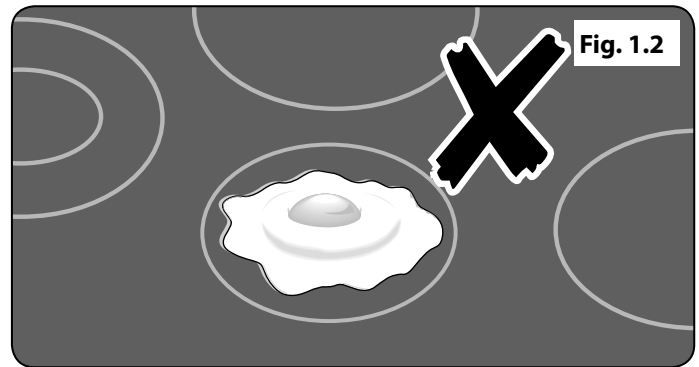

Fig. 1.2
- ⚠ **NEVER cook directly on the hob surface ("Fig. 1.2").**